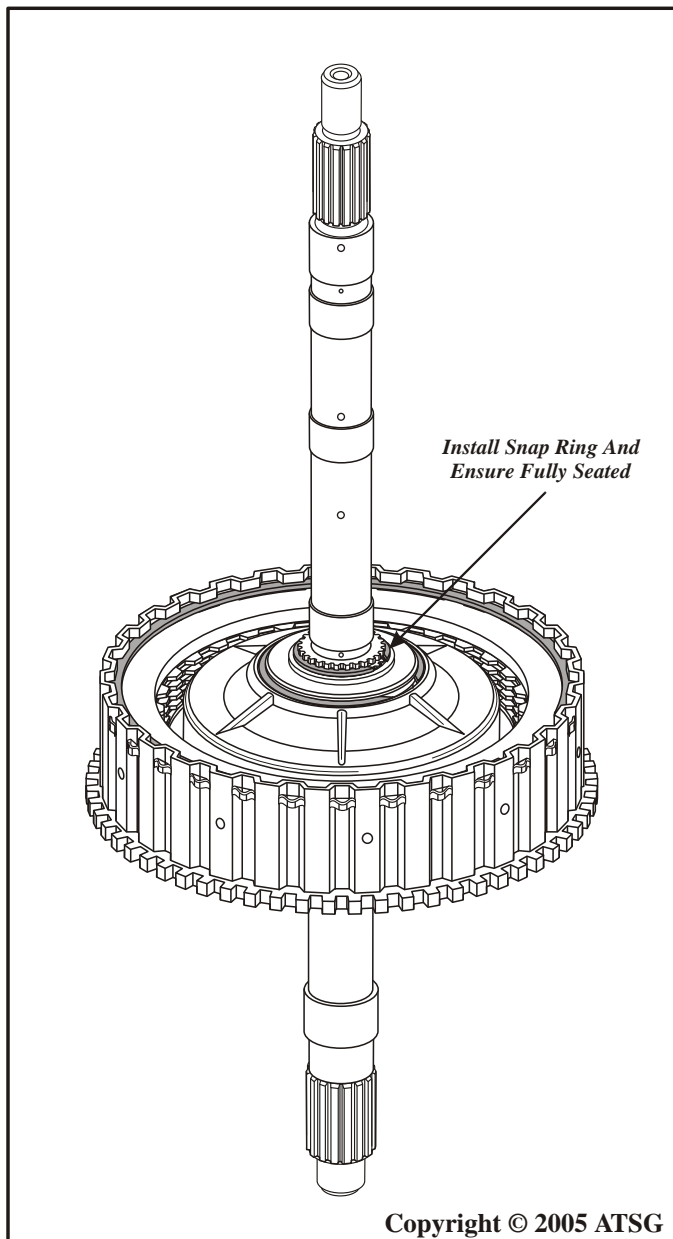

Figure 119
19. Install the turbine shaft through the underdrive clutch housing, as shown in Figure 119, install snap ring and ensure that it is fully seated.